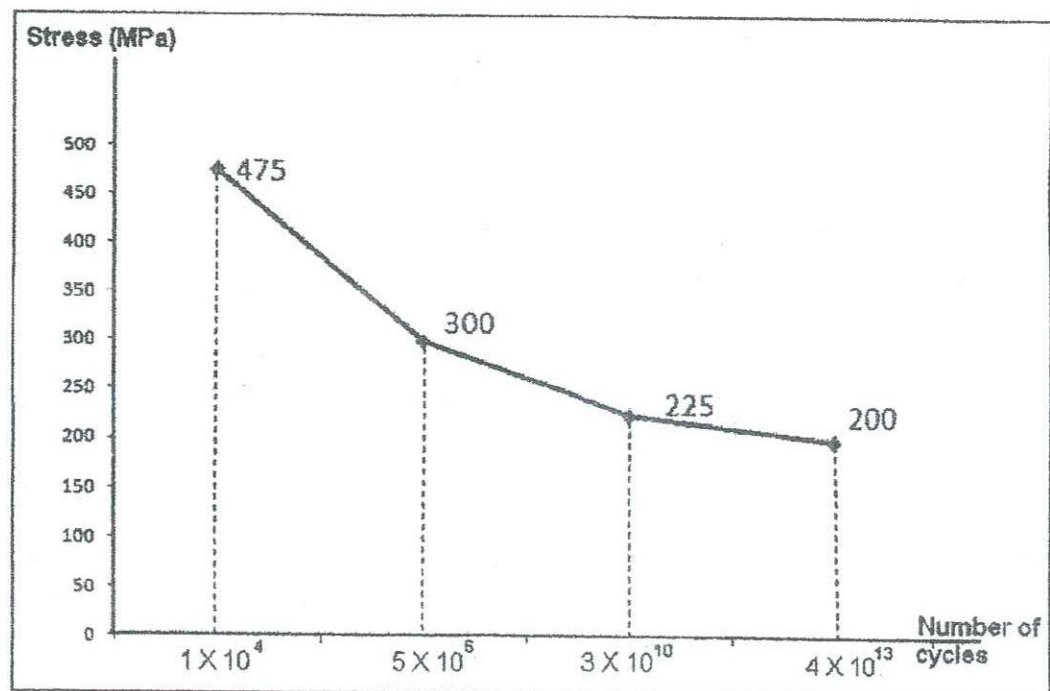

Figure Q3
d) Figure Q3 shows a part of S-N curve of a metallic material. Connecting rod of a machine was fabricated by this metallic material. The rod was used as follows.